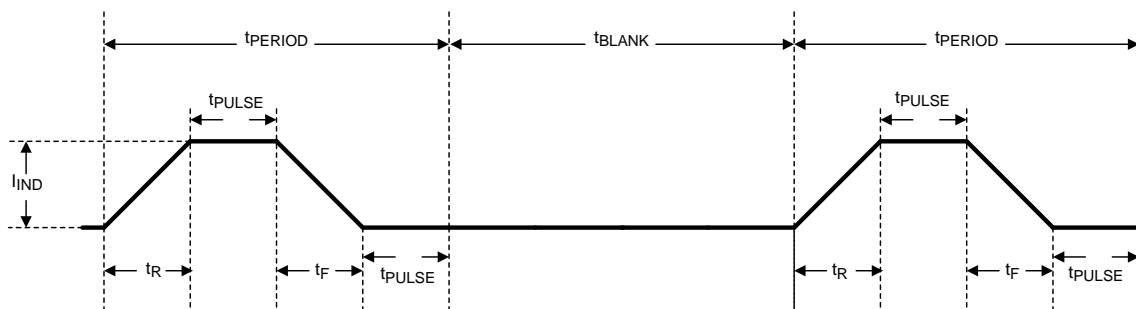

Figure 40. Message Indicator Timing Diagram
3. Ramp times for turnon and turnoff of the indicator current source (see Figure 40 for the message indicator timing diagram).
– (see Figure 40)